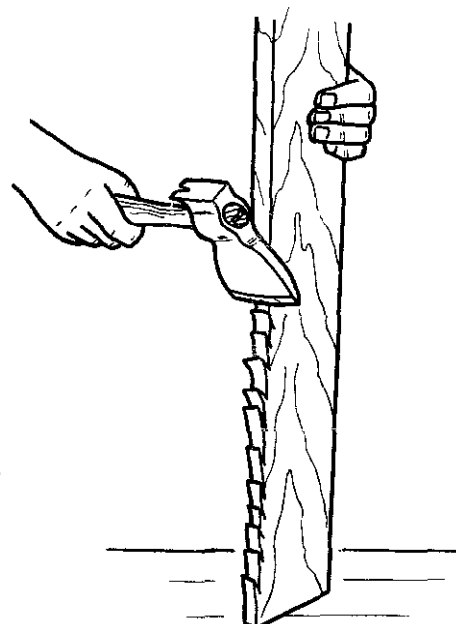

Fig. 9-6 Preliminary cuts for hewing to a straight line.
- c. Choose a single bevel-edge hatchet and make a series of deep cuts every inch or two. Strike the surface at an angle of 45 degrees to 60 degrees, as shown in figure 9-6.